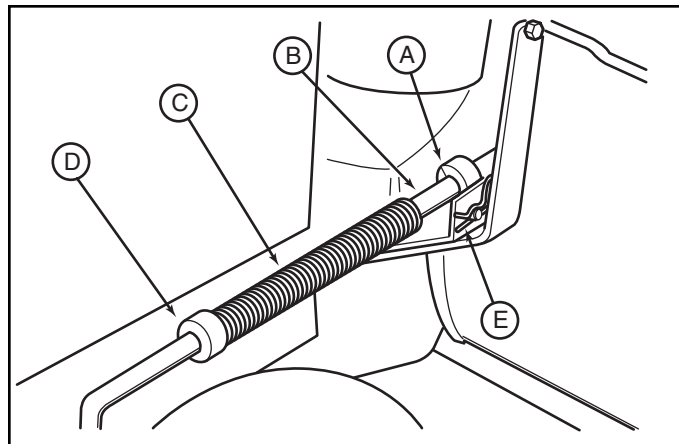

Figure 6. Adjusting Lift Rod
2. The spring (C, Figure 6) should be slightly compressed applying downward pressure to the snowthrower. If not, adjust the rear set collar (D, Figure 6) to achieve the desired amount of downward force. Do not over-compress the lift rod spring.